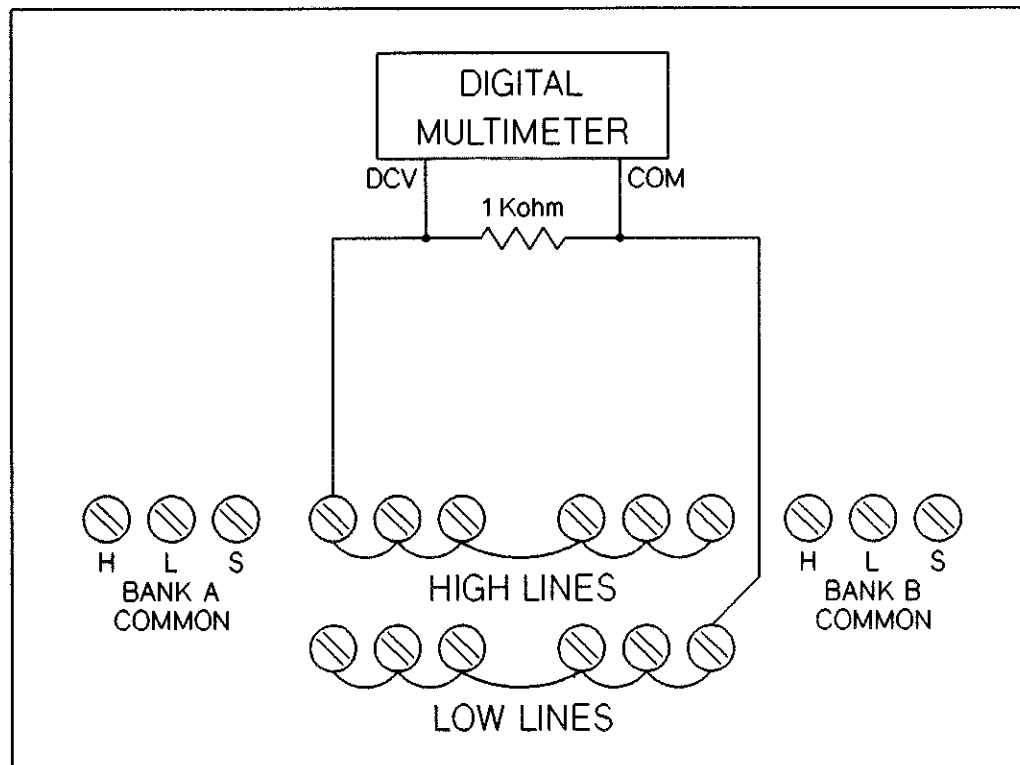

Figure 10-12 HP 44711A DC Offset Test Set-Up
1. Perform the Set-Up Procedure given in Section 10-25. The DC Offset test set-up is shown in Figure 10-12.